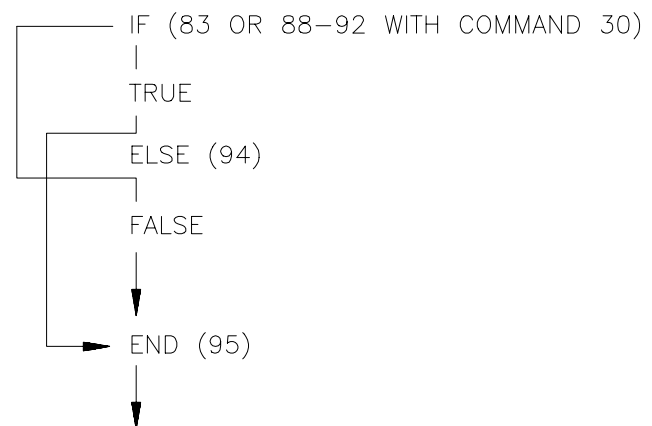

FIGURE 3.8-1. If Then/Else Execution Sequence
Program Control Instructions can be used for If then/else comparisons. When Command 30 (Then do) is used with Instructions 83 or 88-92, the If Instruction is followed immediately by instructions to execute if the comparison is true. The Else Instruction (94) is optional and is followed by the instructions to execute if the comparison is false. The End Instruction (95) ends the If then/else comparison and marks the beginning of the instructions that are executed regardless of the outcome of the comparison (see Figure 3.8-1).